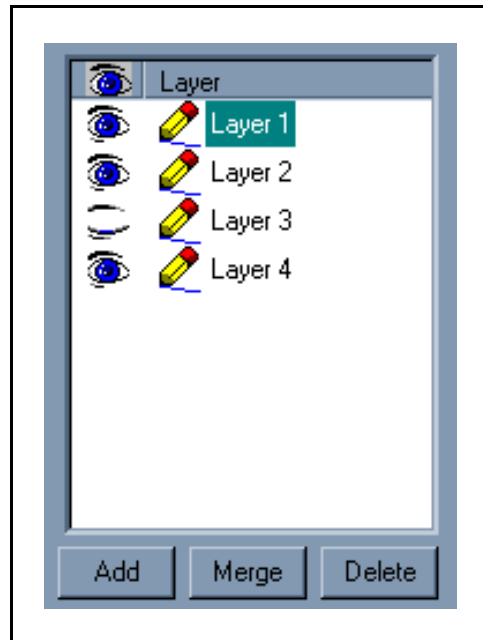

Figure 2.5 *Layer Dialog Box*
**Layer > Dialog** displays the layer dialog box. The layer dialog box displays the layers and allows you to add, merge and delete layers. It also allows you to turn the display of a layer on or off, by selecting the eye icon to the left of the layer. See *Figure 2.5*.